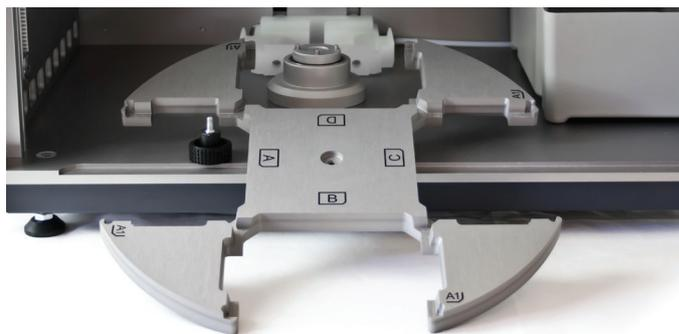

Figure 90. The carousel can be removed for better access when cleaning the interior of the system.
4. Clean the interior of the system, using a soft and clean cloth. The cloth can be dry or lightly dampened with a cleaning solution that is suitable for the residues. If desired, the carousel can be removed for better access by unscrewing the center knob (see Figure 90).